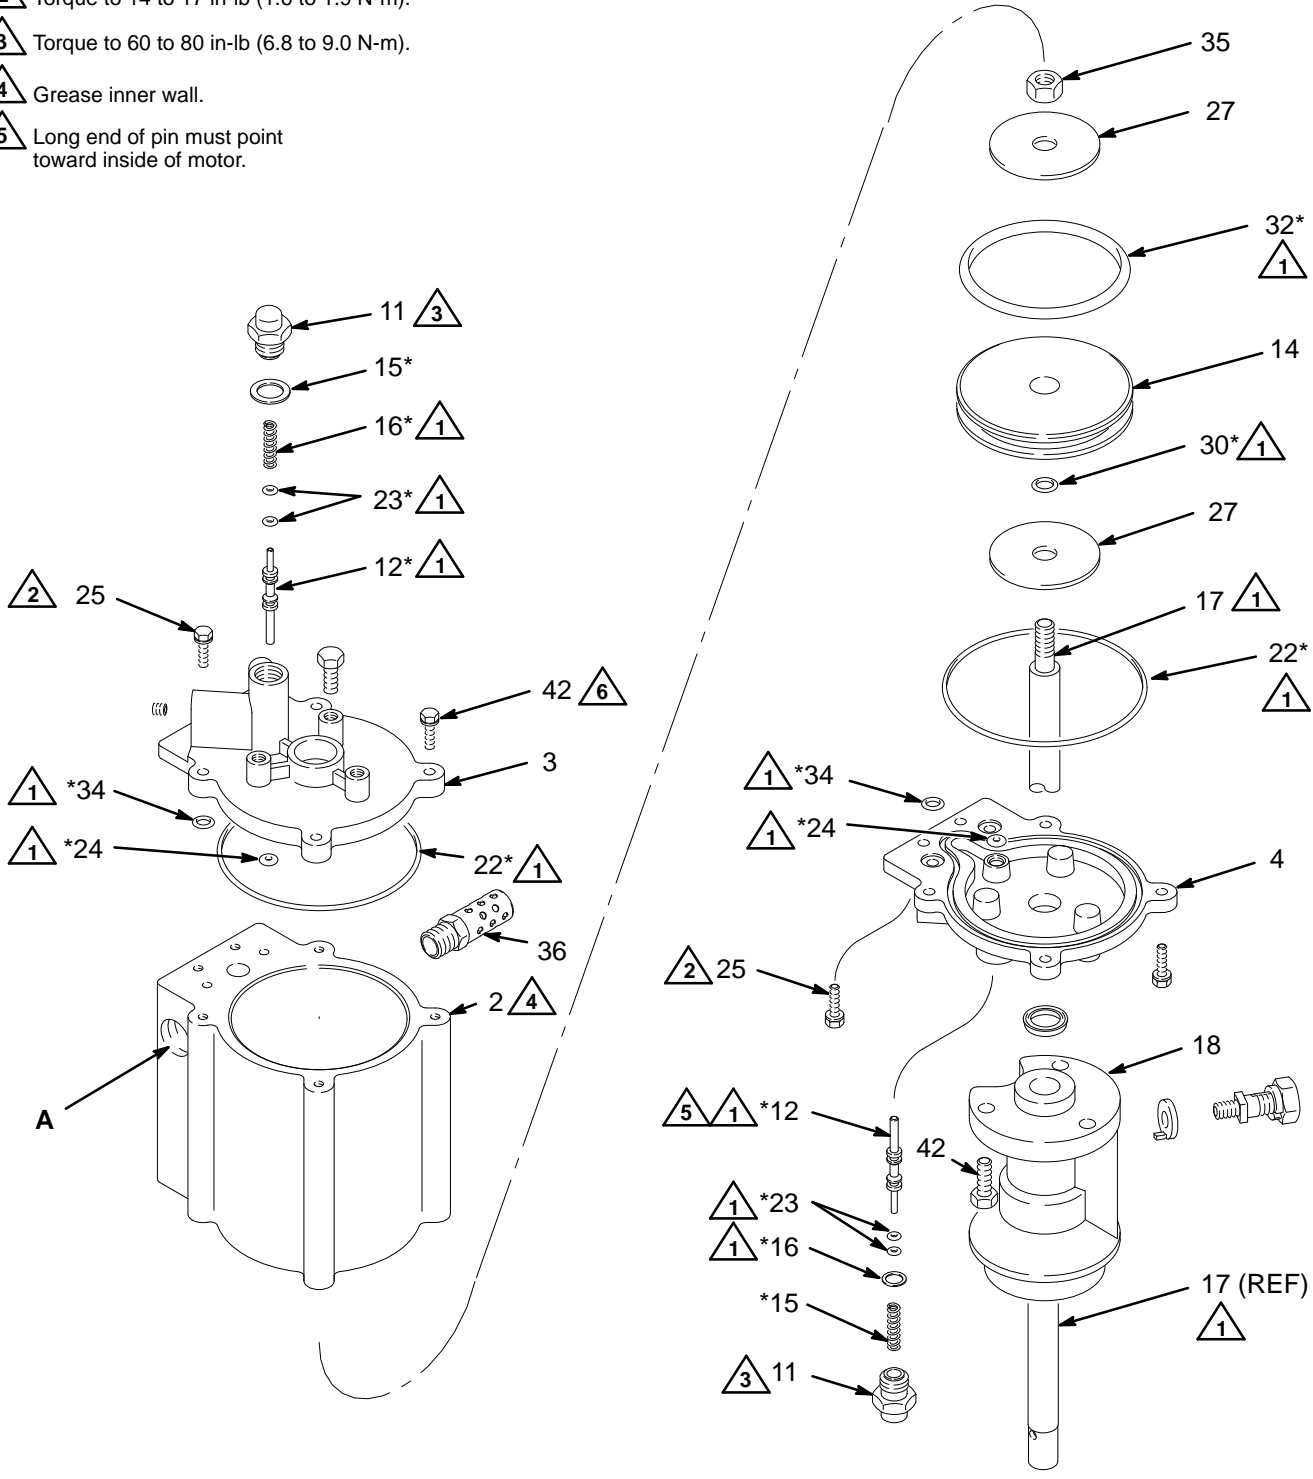

Fig. 11
1. Disconnect the air motor (1) from the displacement pump (100), as explained on page 15.
2. Remove the six screws (25 and 42) holding the bottom cylinder cap (4) to the cylinder (2). Lift the cylinder off the cap to expose the piston (14). See Fig. 11.
3. Pull the piston (14) and piston rod (18) out of the outlet housing (18) and bottom cylinder cap (4).
4. Remove the piston o-ring (32*). Insert a punch in the hole at the end of the piston rod (18) to hold it steady, and unscrew the nut (35) from the rod. Remove the two washers (27), o-ring (30*) and piston (14).
5. Stand the cylinder (2) upright. Remove the six screws (25 and 42) and lift off the top cap (3).
7. Remove the large o-ring (22*) and two small o-rings (34*) from the inside of the top cylinder cap (3). Repeat for the bottom cylinder cap (4).
1. Grease the large o-ring (22*) and the two small o-rings (34*) and install them on the top cylinder cap (3). Repeat for the bottom cylinder cap (4). See Fig. 11.
2. Install the top cap (3) on the cylinder (2). Be sure that the large o-ring (22*) does not roll out of the groove. Install two M4 screws (25) in the square section of the cap and four M5 screws (42) in the tabs. Torque the two M4 screws (25) to 14 to 17 in-lb (1.6 to 1.9 N-m) and the four M5 screws (42) to 35 to 45 in-lb (4.0 to 5.1 N-m).
3. Install a washer (27), an o-ring (30*), the piston (14), *with the chamfer facing down toward the o-ring (30)*, and a washer (27) on the piston rod (17). Screw the self-locking nut (35) onto the rod. Install the o-ring (32*) on the piston (14), and lubricate the o-ring.
4. Grease the piston rod (17) and the inner wall of the cylinder (2).
5. Insert the piston rod (17) into the bottom cap (4) and the outlet housing (18), being careful not to damage the u-cup packing (19) inside the cap.
6. Install the cylinder (2) down over the piston (14). Be sure that the large o-ring (22*) does not roll out of the groove. Install the screws (25 and 42) in the bottom cap (4), as explained in step 2.
7. Reconnect the air motor (1) to the displacement pump (100), as explained on page 15.
1. Remove the actuator valve plug (11) from the top cap (3). Inspect the sealing gasket (15*) and spring (16*) in place on the plug. If the gasket needs replacement, thread it off the plug (11). See Fig. 11.
2. Pull the pin (12*) out of the top cap (3). Remove the two o-rings (23*) from the pin.
4. Repeat for the bottom cylinder cap (4).
1. If the o-ring (24*) was removed, it must be installed from the inside of the top cap (3). Lubricate the o-ring. See Fig. 11. Reinstall the top cap. See **Cylinder and Piston Service**.
2. Install the two o-rings (23*) on the pin (12*). Grease the pin and insert it in the top cap (3). The long end must point toward the inside of the motor.
3. Thread the gasket (15*) onto the plug (11). Grease the spring (16*) and install it in the plug. Screw the plug into the top cap (3) and torque to 60 to 80 in-lb (6.8 to 9.0 N-m).